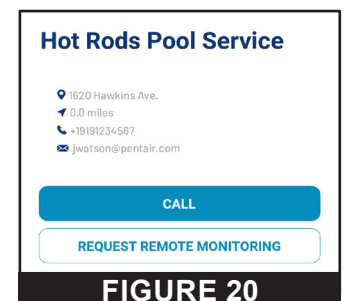

FIGURE 20
6. The Pro Request screen will display. Press REQUEST REMOTE MONITORING. See **Figure 20**.